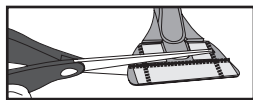

Figure 4.2; (Optional) Trim Blind Mount to Fit
If the HORIZONTAL BLIND MOUNT (B) extends beyond the top or the side of the blind's header, use scissors to trim the HORIZONTAL BLIND MOUNT (B) to fit [Fig. 4.2]. If you have a valance, make sure the top of the neck of the HORIZONTAL BLIND MOUNT (B) is even with or slightly below the bottom of the valance.